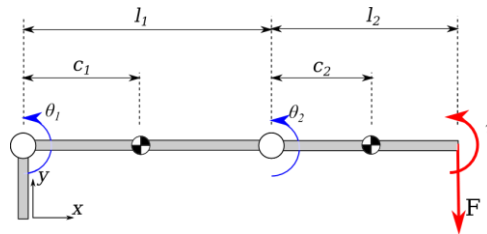

Figure 6
- c) Using the Recursive Newton-Euler approach calculate the torques required by joints 1 and 2 of the manipulator below (Fig. 6) if gravity is 9.81 m/sec^2 , the external force is 2N and the external torque is 5Nm . [12]